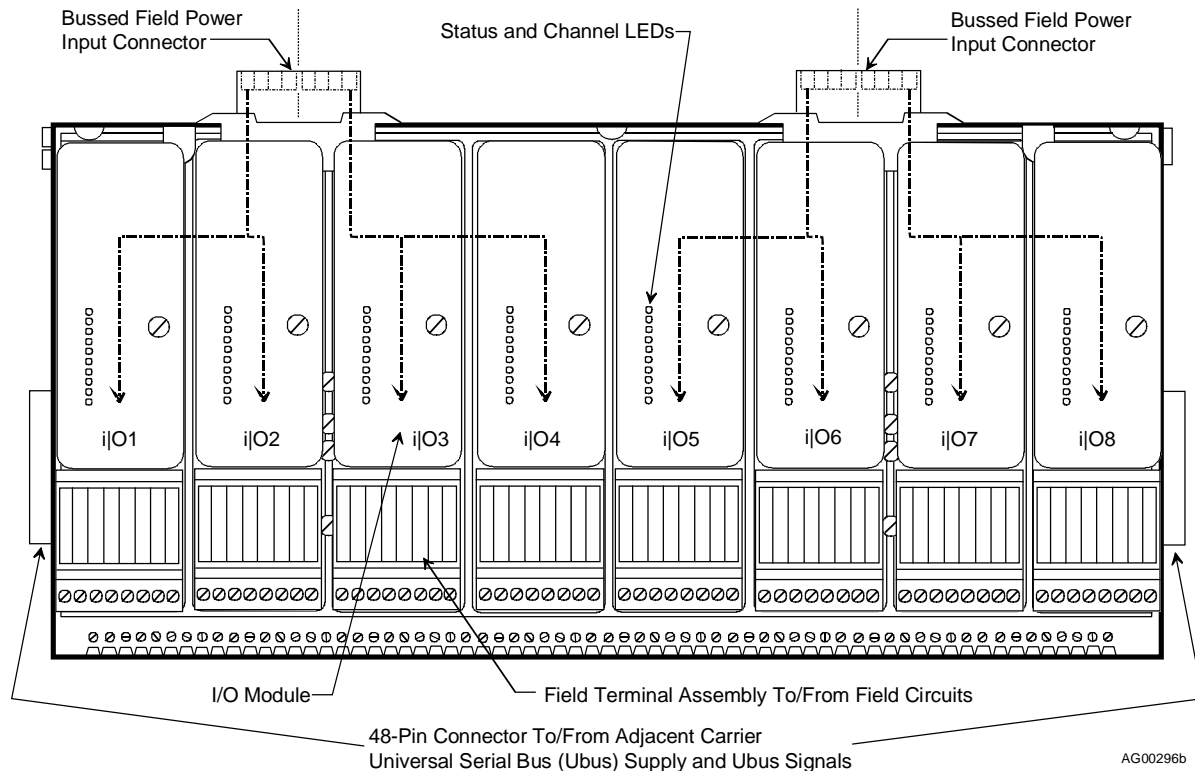

FIGURE 1-2 Model 353R, Assembled Module Carrier
- i|o™ – A series of analog and discrete input/output modules that communicate with the control module over a universal serial bus (Ubus). Figure 1-2 shows i|o modules and i|o field termination assemblies mounted on a module carrier. Each i|o module physical location is numbered as shown; however, during configuration an Ubus address number is entered to define each module's location. Addresses are discussed in Section 2 Getting Started.